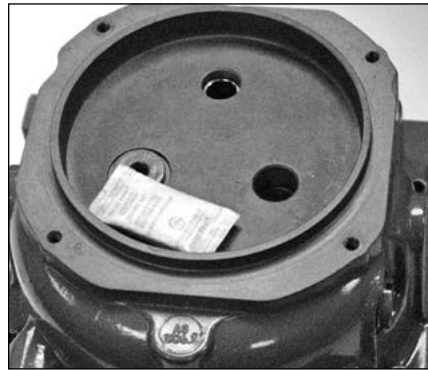

Figure 10.14 - New desiccant pack in place
- A. Apply the new desiccant by peeling the sticker backing and applying to the unit, as indicated in Figure 10.14.